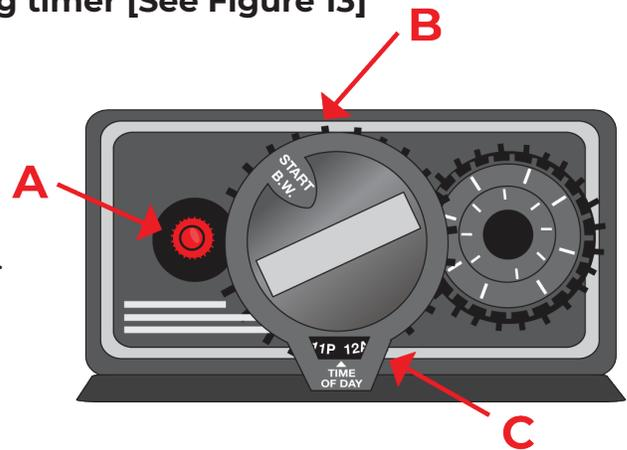

FIGURE 13 - Filter BACKWASH position
1. The ScaleSolver® outlet valve should be in the **BYPASS** position [See Page 4, **Figure 2**]. Lift off the valve cover on the filter unit and turn the control knob on your left (as you face the tank) **CLOCKWISE** to the **BACKWASH** position (notch roughly to the 12 o'clock position) [See Page 18, **Figure 13**].
To reset the weekly automatic self-cleaning timer [See Figure 13]